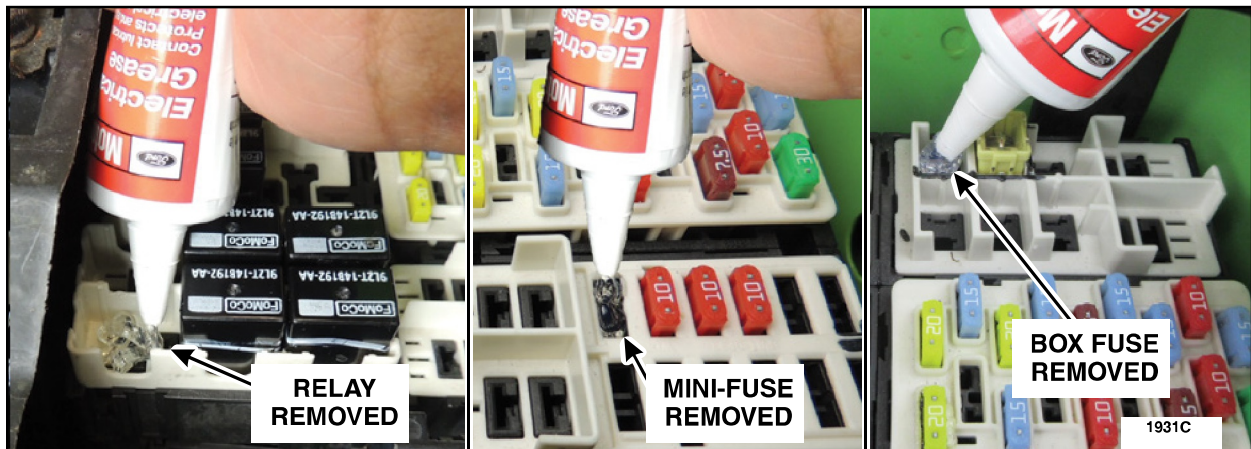

FIGURE 2
3. Starting with the box fuses then the relays, remove each fuse and relay one at a time and apply Motorcraft® XG-12 to the cavity/terminal of the BJB, and re-install the fuse/relay. See Figure 2.